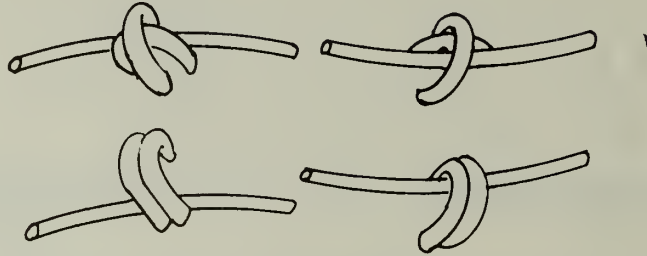

Figure 39. Double Stapling Rise or Dip Wires
5. On very steep dips or rises, where there is considerable wire tension pulling on staples, double stapling is advantageous (Fig. 39).